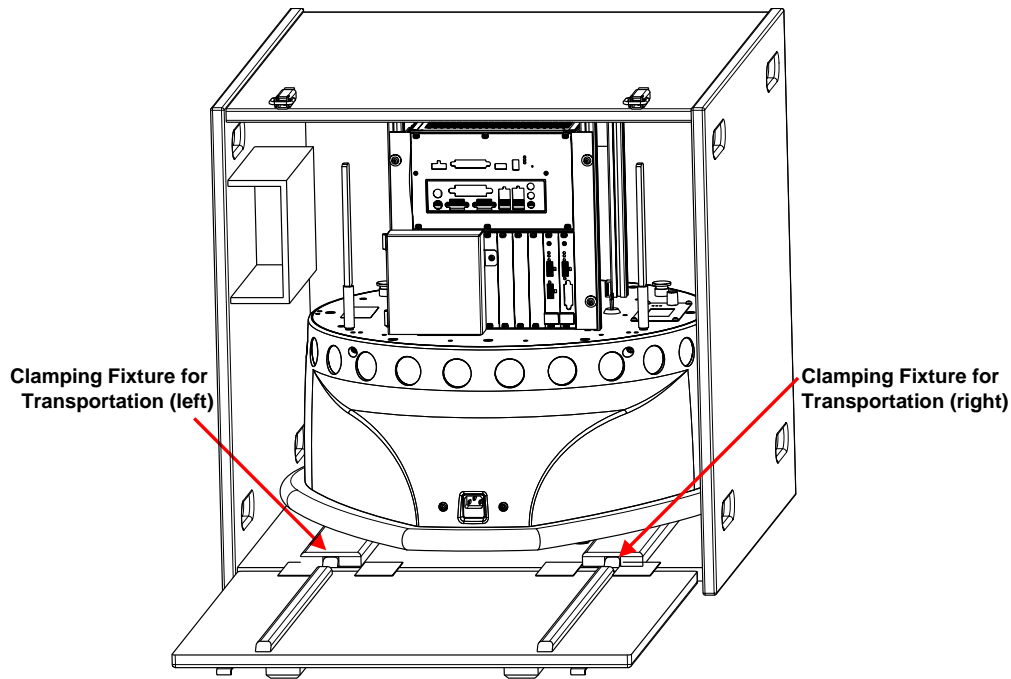

Figure 1.1: SCITOS G5 clamped to plywood transportation-box.
- Use the shipping box and clamping fixtures for transportation (Figure 1.1).